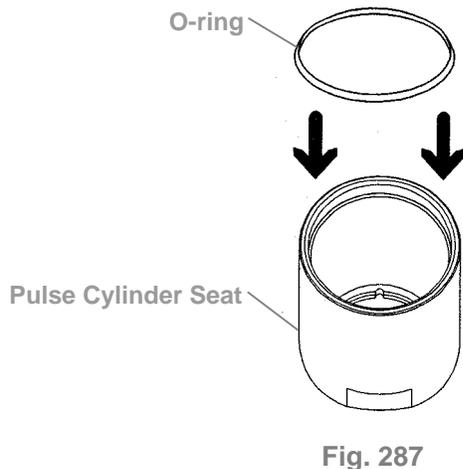

Fig. 287
(4) Pulse Cylinder Seat and Lock Nut of Pulse Cylinder Assembly
❶ Place the o-ring inside the bottom of the pulse cylinder seat, then combine the pulse cylinder seat with the assembled pulse cylinder unit. (Fig. 287, Fig. 288)